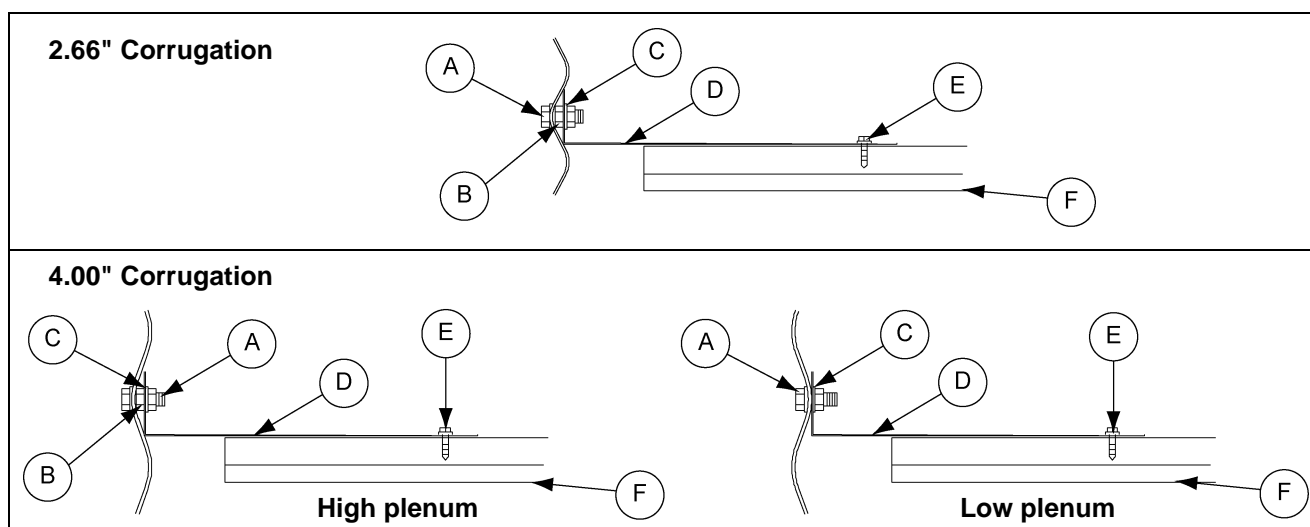

Figure 6B
After floor is in place, place 1-1/4" bolts through pre-punched holes in sidewall. Bolt heads should be on outside of bin. *(See Figure 6B)* to determine the correct sequence for placing the nuts and washers. Finger tighten the nuts until all flashing is installed, then go back and fully tighten. While holding the flashing flat and pushing in towards the bin wall, fasten the flashing (D) to the floor with two (2) sheet metal screws (E).